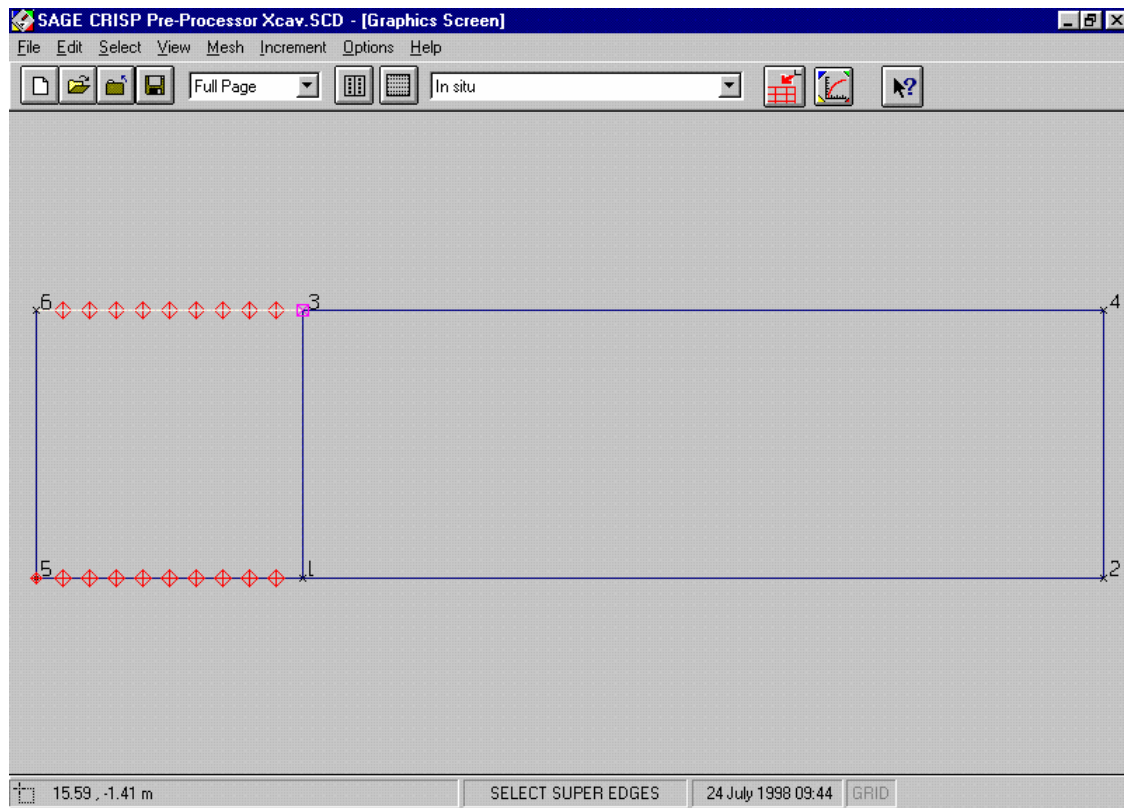

Figure 5-9: Super Edge Gradings
Step 5 Opposite edges of each element are always graded in identical proportions, so by defining edge gradings for this edge, gradings have also been automatically defined for an additional edge. Grading markers are shown on the Graphics Window as diamond shape boxes positioned on graded super edges. The mesh should now look similar to Figure 5-9.